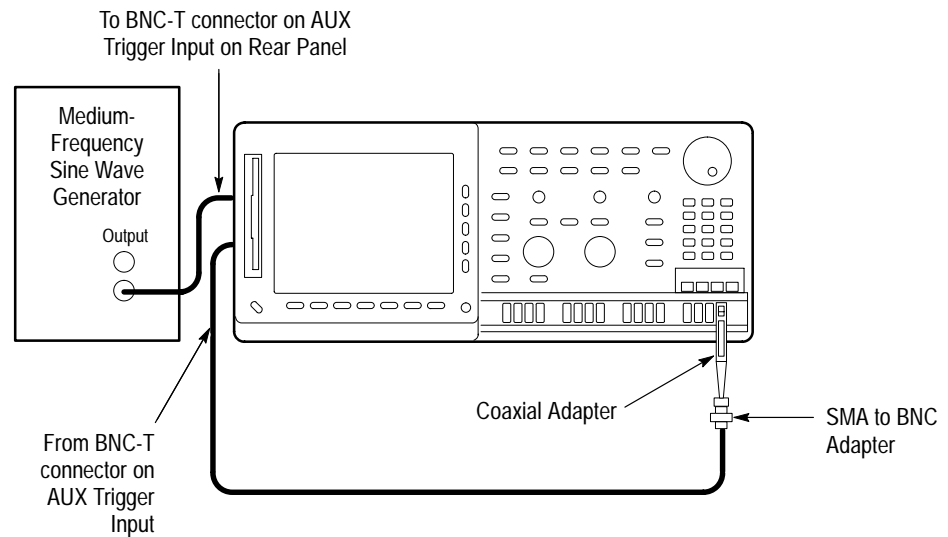

Figure 4–20: Test Hookup for AUX TRIGGER Input Sensitivity Check
- i. Press **SET LEVEL TO 50%**. Check that the instrument obtains a stable trigger for the test waveform on both the positive and negative slopes. See Figure 4–19. (Use the side menu to switch between trigger slopes; use the **THRESHOLD** knob to stabilize the trigger if required.)